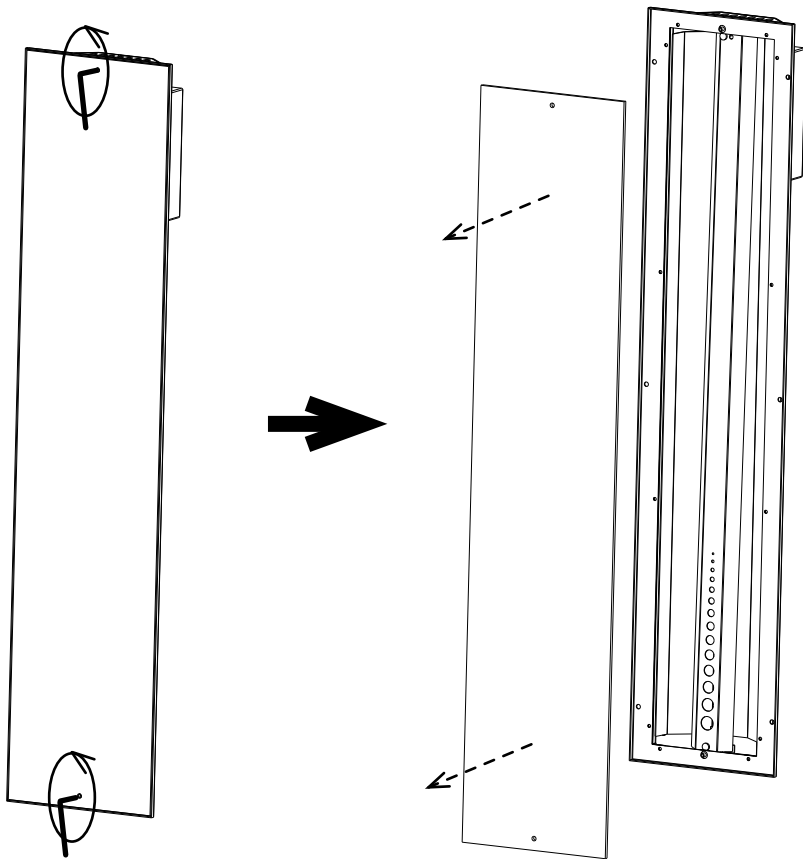

Fig. 5 **Removing the glass panel**
- Allen key 2 mm
4. Remove the glass panel. To do so, use an Allen key to carefully unscrew the two screws (top and bottom of the glass panel) and remove the glass panel by carefully tilting the heater (or using a suction cup). See Figure 5.